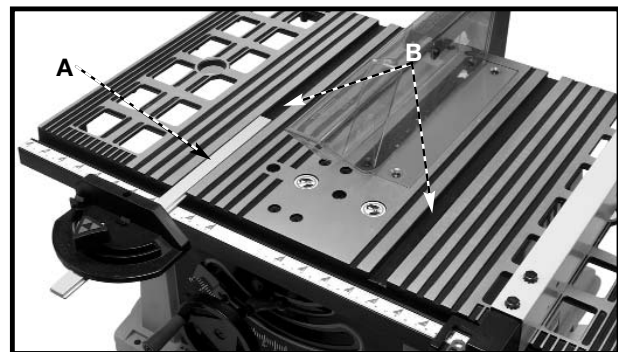

Fig. 10
The miter gauge is shipped assembled and is supplied with a T-slot bar (A) Fig. 10 that is inserted into either one of the two T-slotted miter gauge grooves (B) located in the table top. The T-slot prevents the miter gauge from falling when it is extended beyond the front of the table when cross-cutting extra wide workpieces.